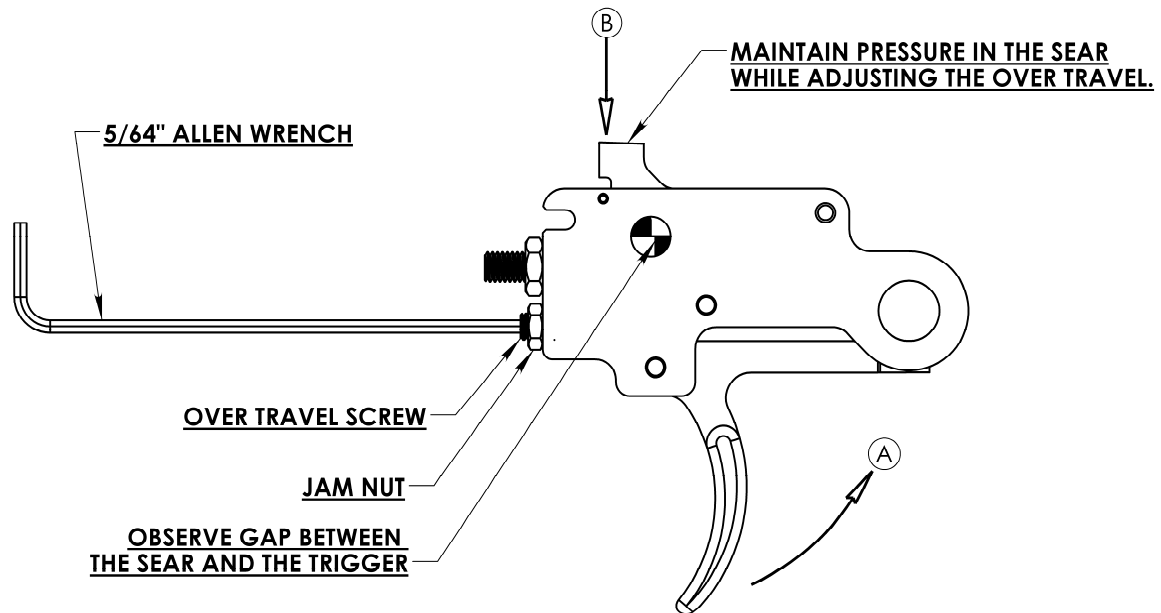

Figure 28. Adjusting the over travel.
1. Loosen the ¼" brass jam nut. Insert a 5/64" allen wrench into the over travel screw. Look through the hole in the side of the trigger housing and pull the trigger and press down on the sear. Turn the over travel screw counter clockwise and observe the trigger moving away from the sear. Turn the screw until the desired over travel and lock into place by turning the brass jam nut clockwise until it is tight against the trigger housing. (Figure 28) Test the setting by pulling the trigger and depressing the sear. Release the trigger. Slowly release the sear and ensure the trigger has enough clearance to reset.